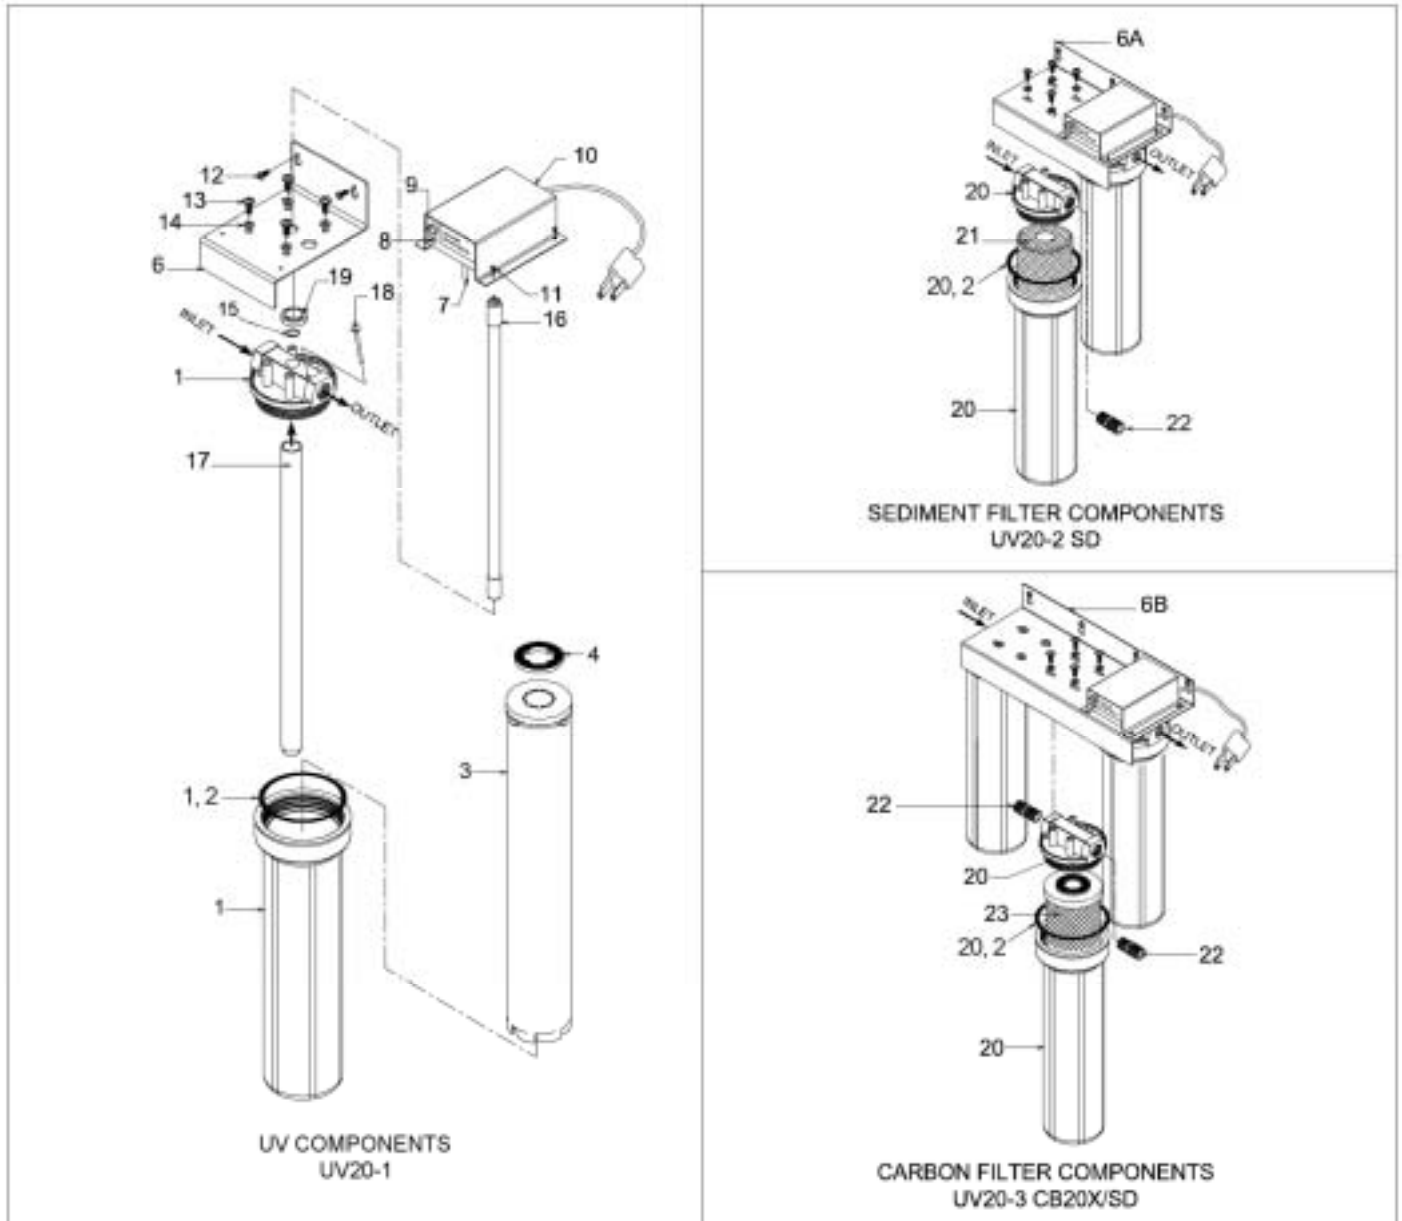

Figure 2 Exploded Schematic, PURA UV20 Series
NOTE: All Items refer to Figure 2.
2. Verify Stainless Steel Channeling Sleeve (Item 3) and Sleeve Gasket (Item 4) are in sump as shown in Figure 2.
4. **For UV20-2 & UV20-3 Models only:** Remove Sump (Item 1) from Filter Head (Item 20). Install Filters (Items 21 and 23) as shown in Figure 2. Install sump onto filter head.
CAUTION: Verify that inlet and outlet ports are connected to appropriate inlet/outlet pipes (see Figure 2).
9. *For UV20 Model only:* Clean and rinse the Stainless Steel Channeling Sleeve (Item 3) and Sleeve Gasket (Item 4) shown in Figure 2.